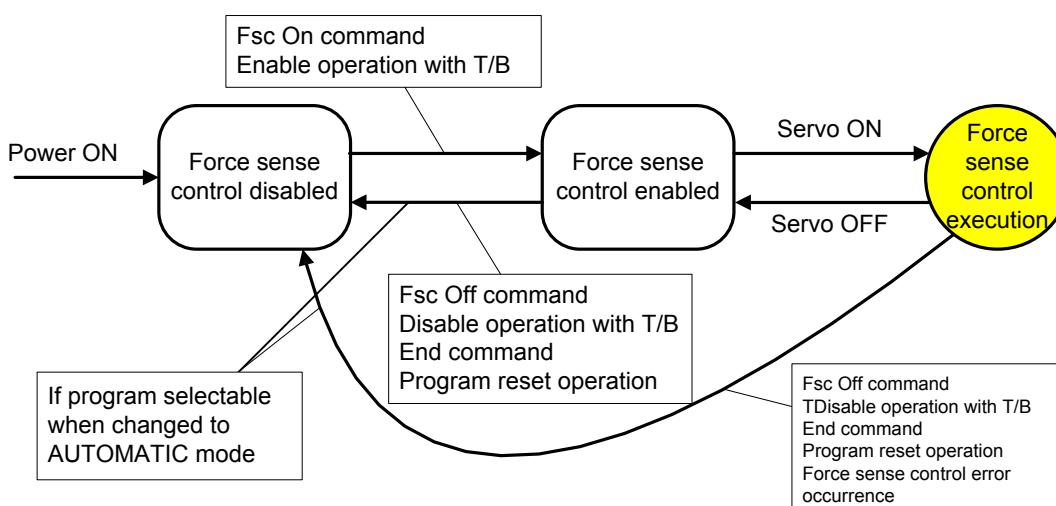

Fig. 11-1: Force sense control function status transition
- (5) "Control mode" and "control characteristics" 1 to 9 use setting values for each corresponding parameter. (Refer to Table 11-2 for details of setting items contained in control mode and control characteristics.)
- (6) If the "control mode" or "control characteristics" is 0 or -1, conditions set with dedicated status variables are used. The default status is the same setting as if "control mode" and "control characteristics" 1 is specified. (Refer to Table 11-2 for details of setting items contained in control mode and control characteristics.)
- (7) If the offset cancel designation is 1, force sensor data becomes 0 for all axes when this command is executed, and the sensor offset component is offset (zero point offset). No offset is made if the offset cancel designation is 0.
- (8) If the offset cancel designation is 1 and a value is set in the following data specified in the <control mode> (force sense calibration executed), the offset component cancel data is updated in sequential consideration of the load while the force sense control is turned on.
- (9) If the offset cancel designation is 1, execute this command after the robot stops completely. If the command is executed immediately after the movement, the zero point offset may not be performed properly due to an inertial force.
- (10) The force sense control enabled/disabled status and "control mode"/"control characteristics" settings are common to both AUTOMATIC and MANUAL modes.
- (11) Even if an interpolation continuous command is specified with the Cnt command, the command is executed after waiting for the robot movement to be completed.
- (12) Force sense control is disabled by performing a program reset or executing an End command. (See Fig. 11-1.)
- (13) Force sense control processing functions only when the servo is ON. Even if force sense control is enabled, force sense control processing is not performed while the servo is OFF. If the servo is turned OFF while performing force sense control processing, processing is stopped. Force sense control processing is then resumed by turning the servo ON again. (See Fig. 11-1.)